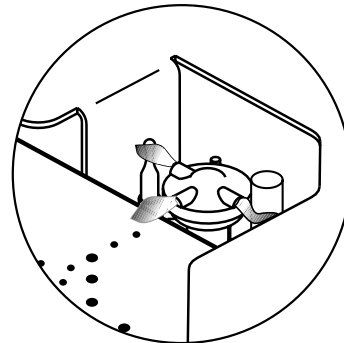

Figure 8.5. Use caution in placing the logs to ensure that the pilot carry-over ports are not obstructed.
**2. PILOT FLAME:** You can monitor the pilot flame behind the burner in the cut-out under the rear log. See fig. 8.5, pg. 25. The pilot flame should be steady - not lifting or floating. The flame should be blue in color around the pilot hood, with traces of yellow toward the outer edges.